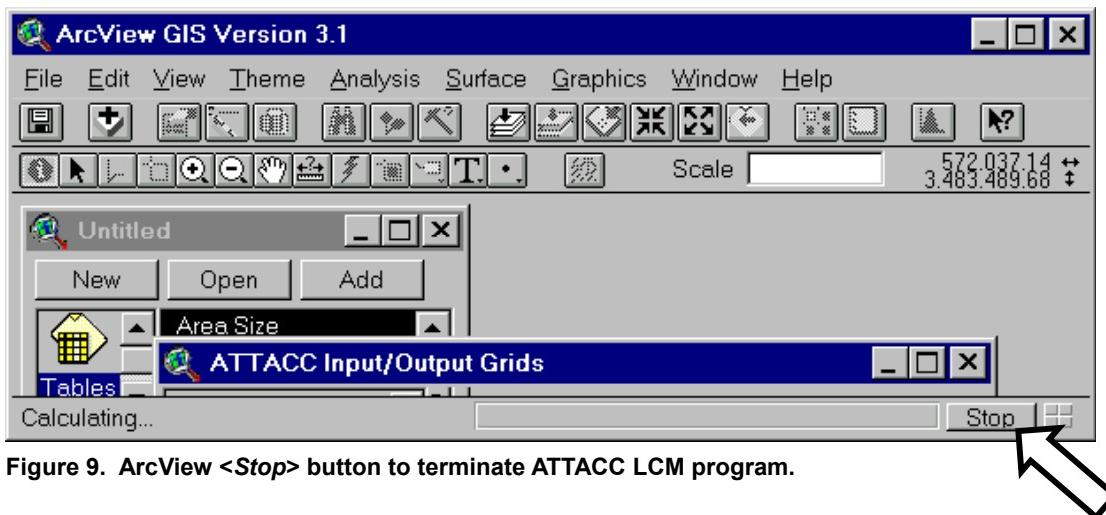

Figure 9. ArcView <Stop> button to terminate ATTACC LCM program.
5. To terminate the VSF/LCF Calculator program before completion, press the <Stop> button on the lower right hand corner of the ArcView program window. Figure 9 shows the <Stop> button in a typical ArcView program window.